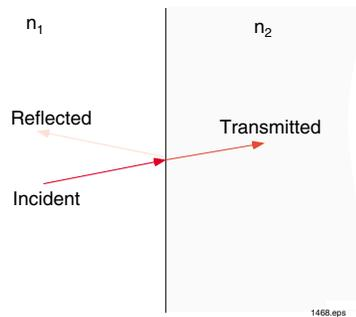

Figure 5.1 Diagram of incident light ray being split into two components at the boundary between optical materials with different refractive indices.
Another common extrinsic loss is caused by Fresnel reflections (sometimes called Fresnel losses). These reflections are analogous to voltage standing waves (measured as ratios or VSWR) that reduce power transfer in radio frequency (RF) applications. The greater the electrical mismatch (higher VSWR), the more power is reflected back. Fresnel reflections demonstrate this same effect in a different part of the electromagnetic spectrum. See **Figure 5.1**. The greater the mismatch of refractive indexes as light travels from one medium to the other, the greater the amount of optical energy that is reflected back. For a uniformly polarized light beam at near perpendicular angles the generalized equation for Fresnel reflections is: